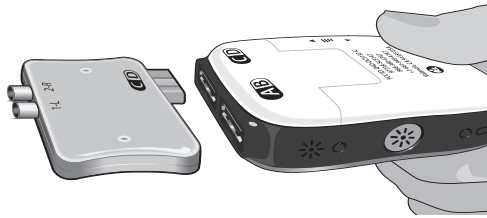

Figure 5: Connection of the ETS Adapter to the External Trial Stimulator 2
3. Plug the ETS Adapter into the External Trial Stimulator 2 socket labeled “CD” (Figure 5).